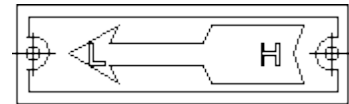

Fig.24
15.2. Arrow: Recommend Flow Direct. Fig.24